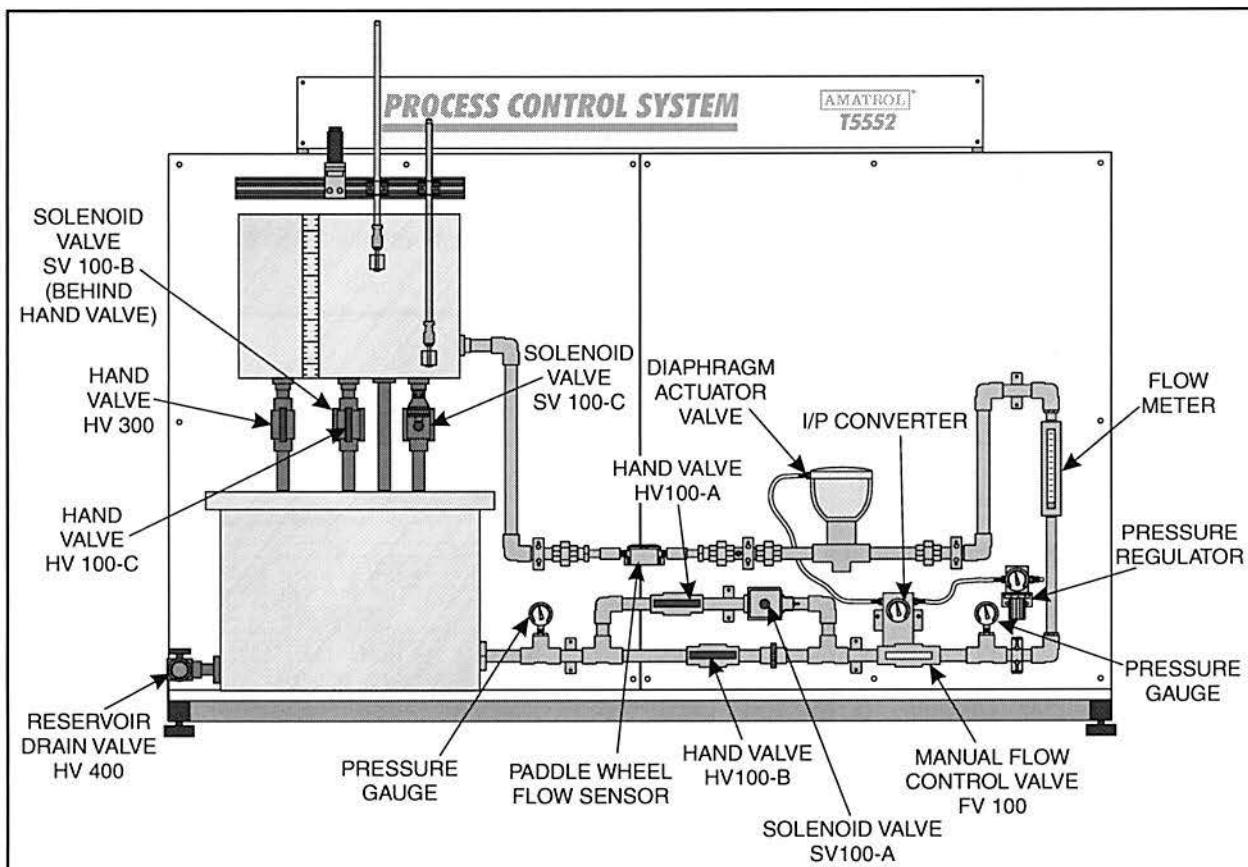

Figure 23. T5552 Process Piping Network Components
3. Locate the following process piping components on the T5552 system, as shown in figure 23.